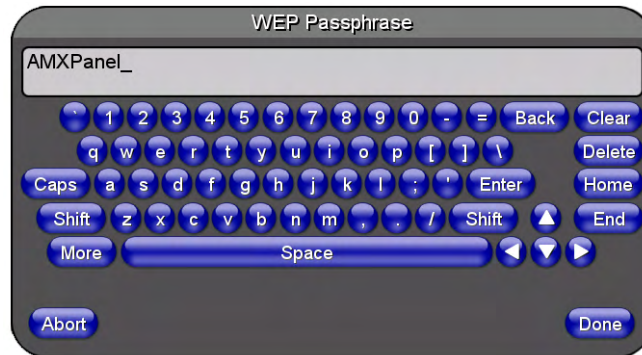

FIG. 23 WEP Passphrase Keyboard
8. Within the *WEP Passphrase* keyboard (FIG. 23), enter a character string or word (such as *AMXPanel*) and press **Done** when finished.